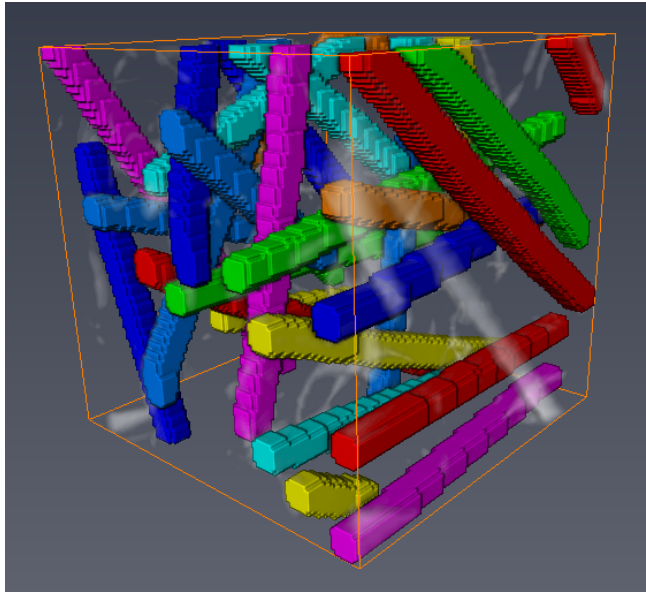

Figure 12.19: Dilated Centerlines
7. Once all parameters have been configured, click **Apply**. Attach the *voxelized rendering* module to the *Ball Dilation* result. The centerlines are dilated back to their original size as shown in Figure 12.19.